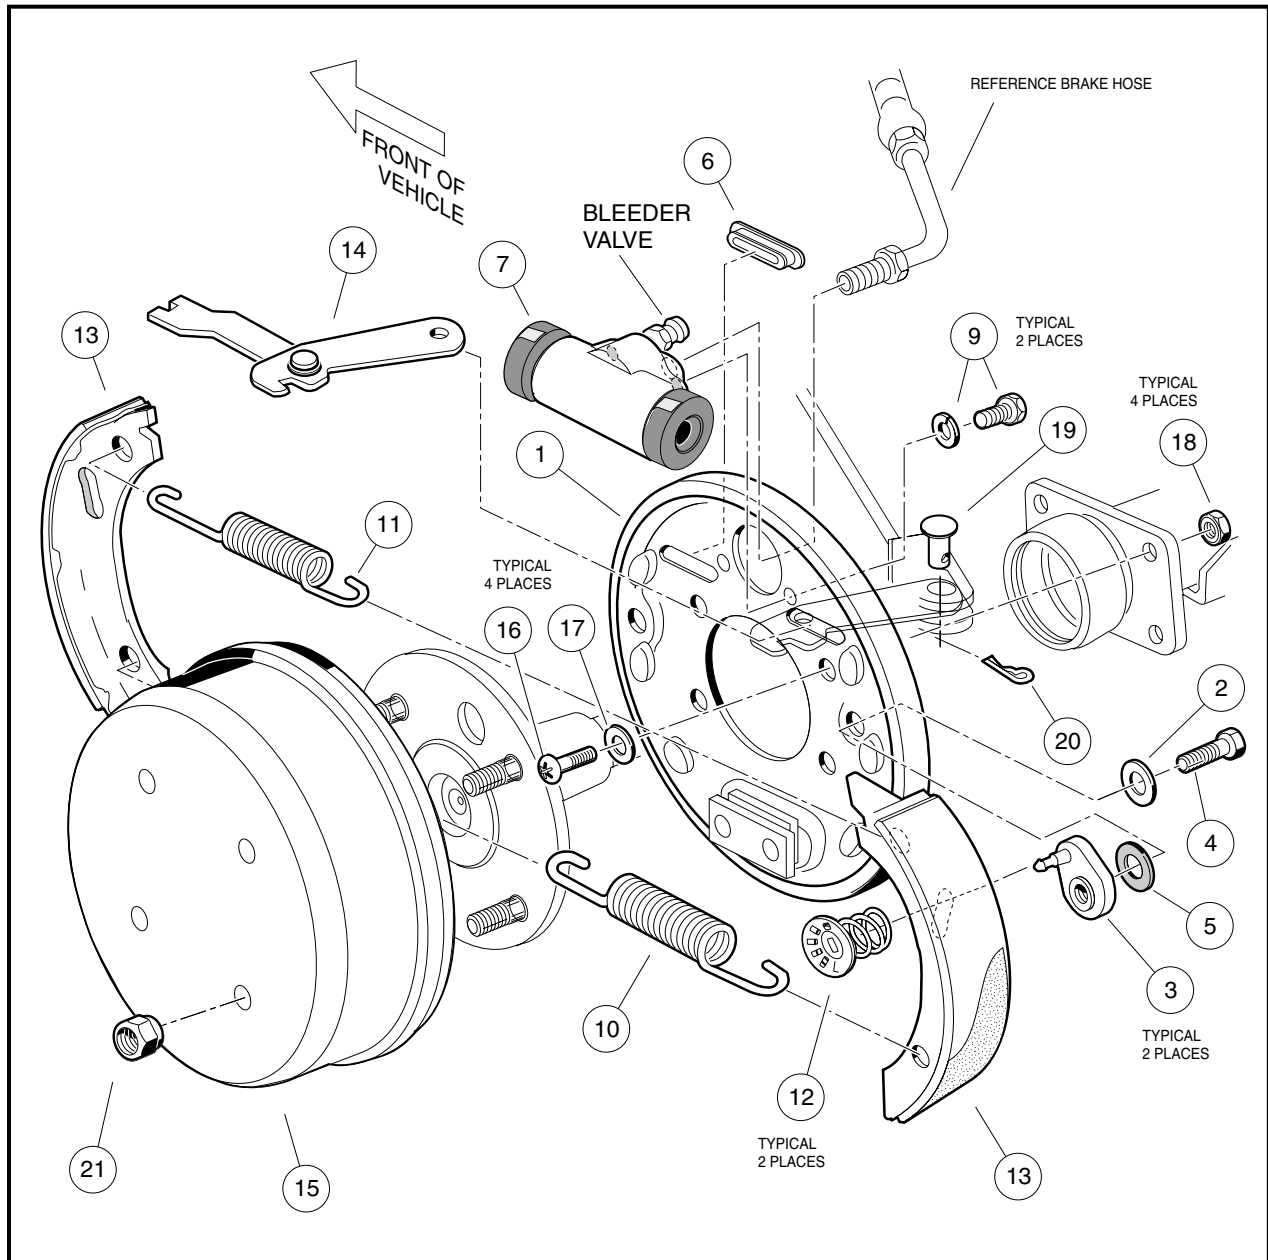

Figure 6b-21 Rear Hydraulic Brake Cluster Assembly
5. Remove two bolts (9) and lock washers that secure the wheel cylinder to the brake cluster back plate (1), and remove the wheel cylinder (7) (**Figure 6b-21, Page 6b-25**).
1. Install wheel cylinder (7) with two bolts (9) and lock washers to the brake cluster assembly back plate (1) (**Figure 6b-21, Page 6b-25**). Tighten each bolt to 120 in-lb (13 N·m). **See following NOTE.**
2. Using a 3/8-inch flare nut wrench, attach the brake hose fitting to the brake cluster wheel cylinder (**Figure 6b-19, Page 6b-22**).
4. With the back plate removed, grip adjuster arm (3) with a pair of locking pliers. Use a Torx #T-27 driver or 7/16-inch socket to remove the bolt (4) and Bellville washer (5) from the brake cluster back plate (1) **(Figure 6b-3, Page 6b-4)**. Remove remaining adjuster assembly and discard all adjuster components (3, 4, and 5) for both assemblies.
1. Install bolt (4) through the flat washer (2) and through the back plate (1) **(Figure 6b-3, Page 6b-4)**.